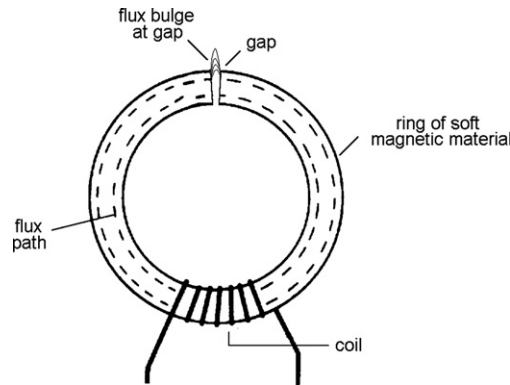

Figure 7.5:
We often think of magnetic tape recording as comparatively new, but it was invented by the Danish engineer Valdemar Poulsen (1869–1942) in 1889, and a (wire) recording that was made in 1900 by Emperor Franz Josef of Austria–Hungary has survived. The principle (Figure 7.5) is simple enough. A ring of magnetic material, with a coil of wire wound round it, will be magnetized when current flows in the coil. If there is a small gap in the rim, then the magnetization around this gap will be very strong, and when the current through the coil is alternating current (AC), the magnetization around the gap will also alternate in direction and strength. This concentrated magnetic field will affect any magnetic material near it.